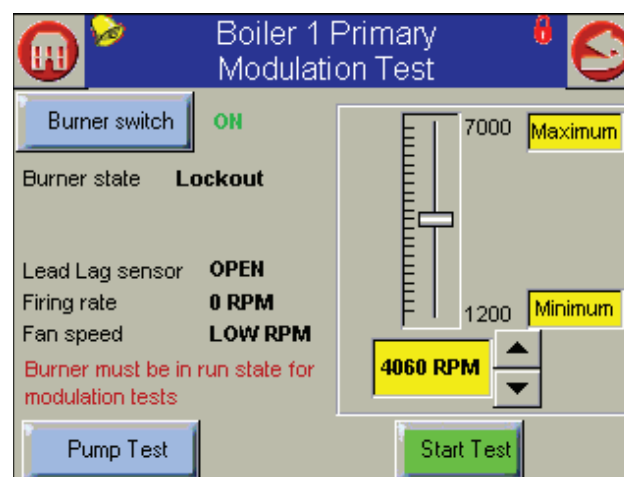

Fig. 134 – Modulation Test
3. Press the button for Diagnostic Tests. The Modulation test allows you to change the rate at which the burner fires, and watch the results. See Fig. 134.